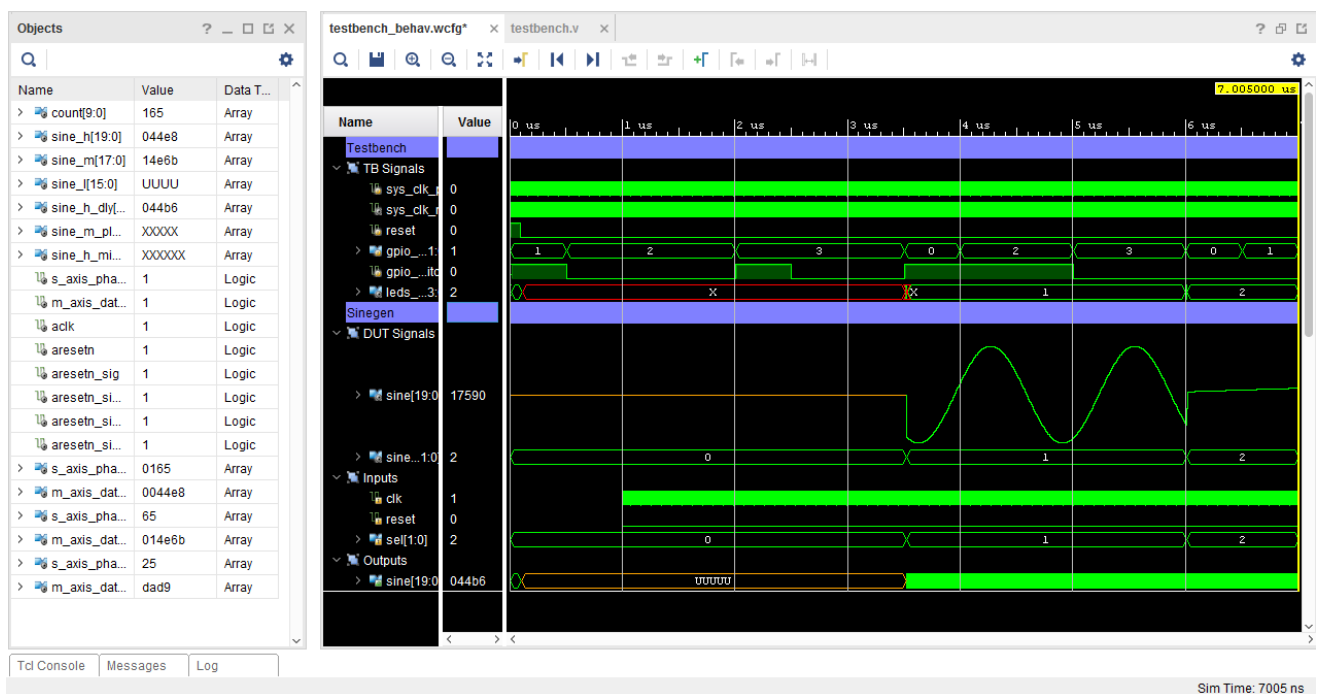

Figure 20: Configuring the Wave Window
7. Repeat steps 5 and 6 above to filter the Output objects and drag them onto the Output group, and filter the Internal Signals and drag them onto the Internal Signals group, as shown in Figure 20.